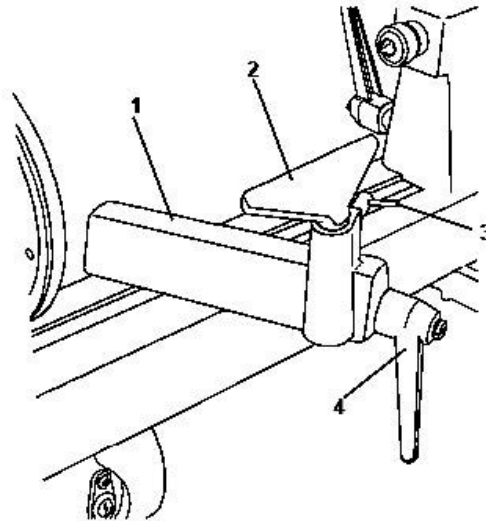

Fig. 12: Adjusting the tool rest
- Step 1: To move the tool rest (item 1, Fig. 12), release the locking lever (item 4, Fig. 12) and the clamping lever 3, then move the base to the right or left and forwards or backwards.
- Step 2: After aligning the tool rest, tighten the lever (item 4, Fig. 12) again.
- Step 3: To adjust the angle of the tool rest (item 2, Fig. 12), release the locking lever (item 3, Fig. 12), slide the tool rest to the required position and tighten the locking lever.
- Step 4: To fit the other tool rest, release the locking lever (item 3, Fig. 12) and remove the tool rest (item 2, Fig. 12) from the tool rest base, insert the other tool rest, position as required and tighten the locking lever (item 3, Fig. 12) again.